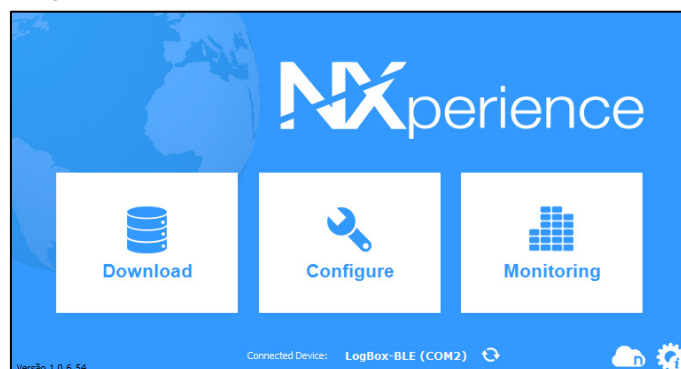

Figure 62 – NXperience home screen
- f. On the **NXperience** startup screen, as shown in Figure 62, pressing the Ctrl + Shift + F12 keys simultaneously will cause the firmware update screen to reappear, as shown in Figure 63.